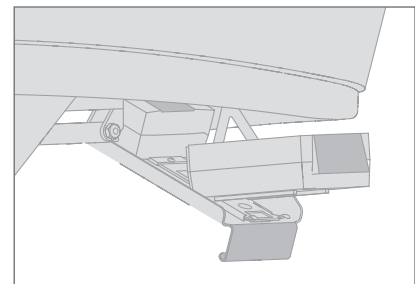

Figure 12. Attaching/removing battery to/from battery compartment
2. Squeeze the battery release lever to disengage the battery from the mount bracket and lift. The battery will disconnect from the control box (see figure 12).